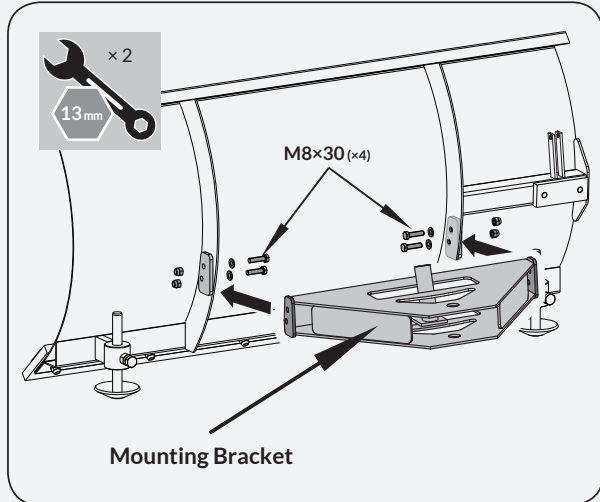

Figure 1a
1. Mount the mounting bracket to the blade using M8×30 hex bolts, washers and nuts. (See **Figure 1a**)